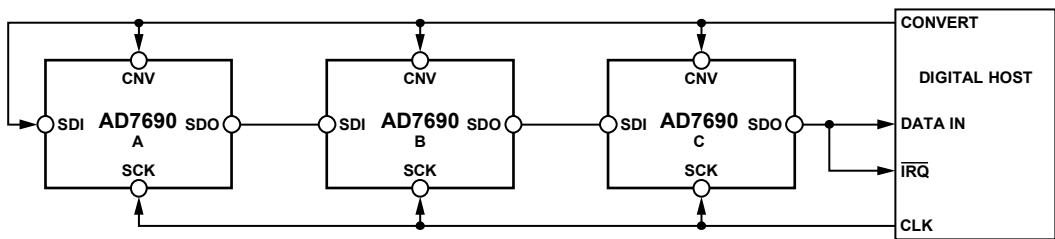
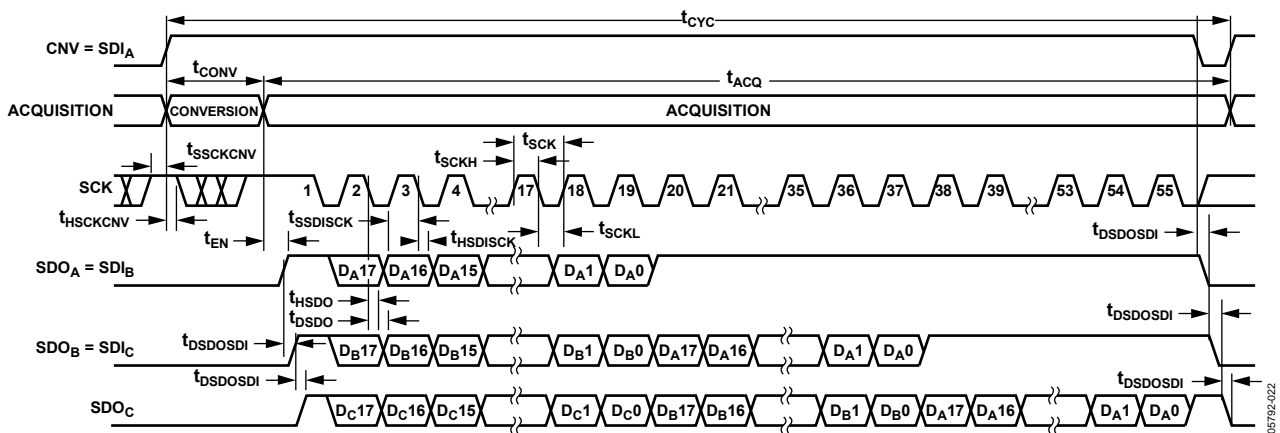

Figure 44. Chain Mode with Busy Indicator Connection Diagram
Figure 45. Chain Mode with Busy Indicator Serial Interface Timing
- In chain mode if SCK is high during the CNV rising edge (see Figure 45).
A connection diagram example using three AD7690s is shown in Figure 44, and the corresponding timing is given in Figure 45.
subsequent data readback. When all ADCs in the chain have completed their conversions, the SDO pin of the ADC closest to the digital host (see the AD7690 ADC labeled C in Figure 44) is driven high. This transition on SDO can be used as a busy indicator to trigger the data readback controlled by the digital host. The AD7690 then enters the acquisition phase and powers down. The data bits stored in the internal shift register are clocked out, MSB first, by subsequent SCK falling edges. For each ADC, SDI feeds the input of the internal shift register and is clocked by the SCK falling edge. Each ADC in the chain outputs its data MSB first, and  $18 \times N + 1$  clocks are required to read back the N ADCs. Although the rising edge can be used to capture the data, a digital host using the SCK falling edge allows a faster reading rate and consequently more AD7690s in the chain, provided the digital host has an acceptable hold time.